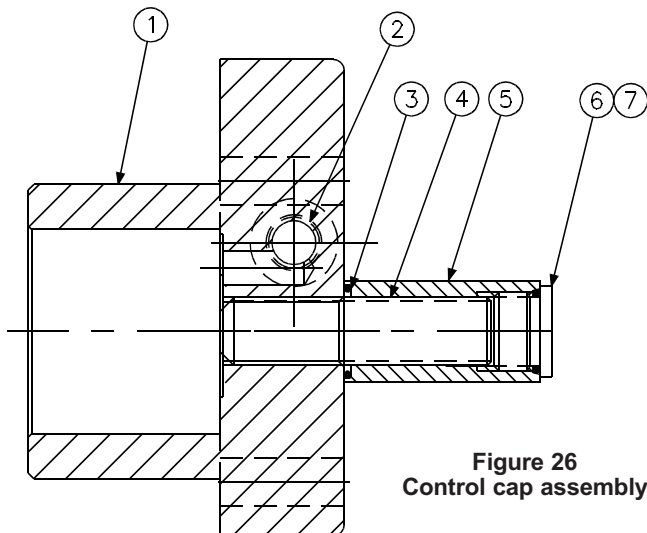

Figure 26
PARTS LIST FOR FIGURE 26
1. See Figure 26. Remove nut (5) and Max. volume screw (4).